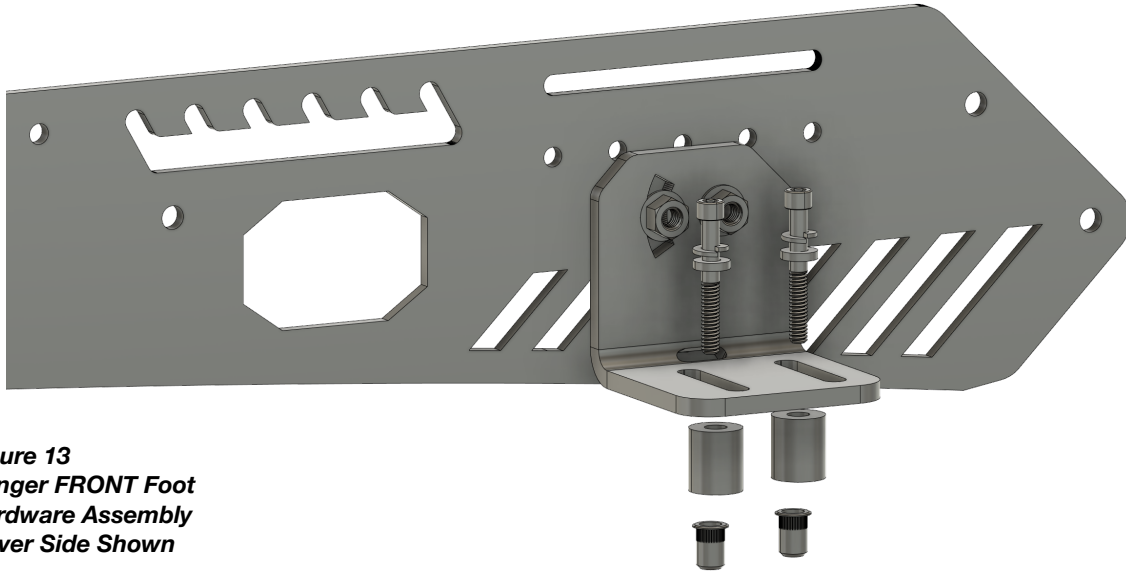

Figure 13
- **Install the FRONT feet hardware (55mm bolts) as shown in Figure 13**